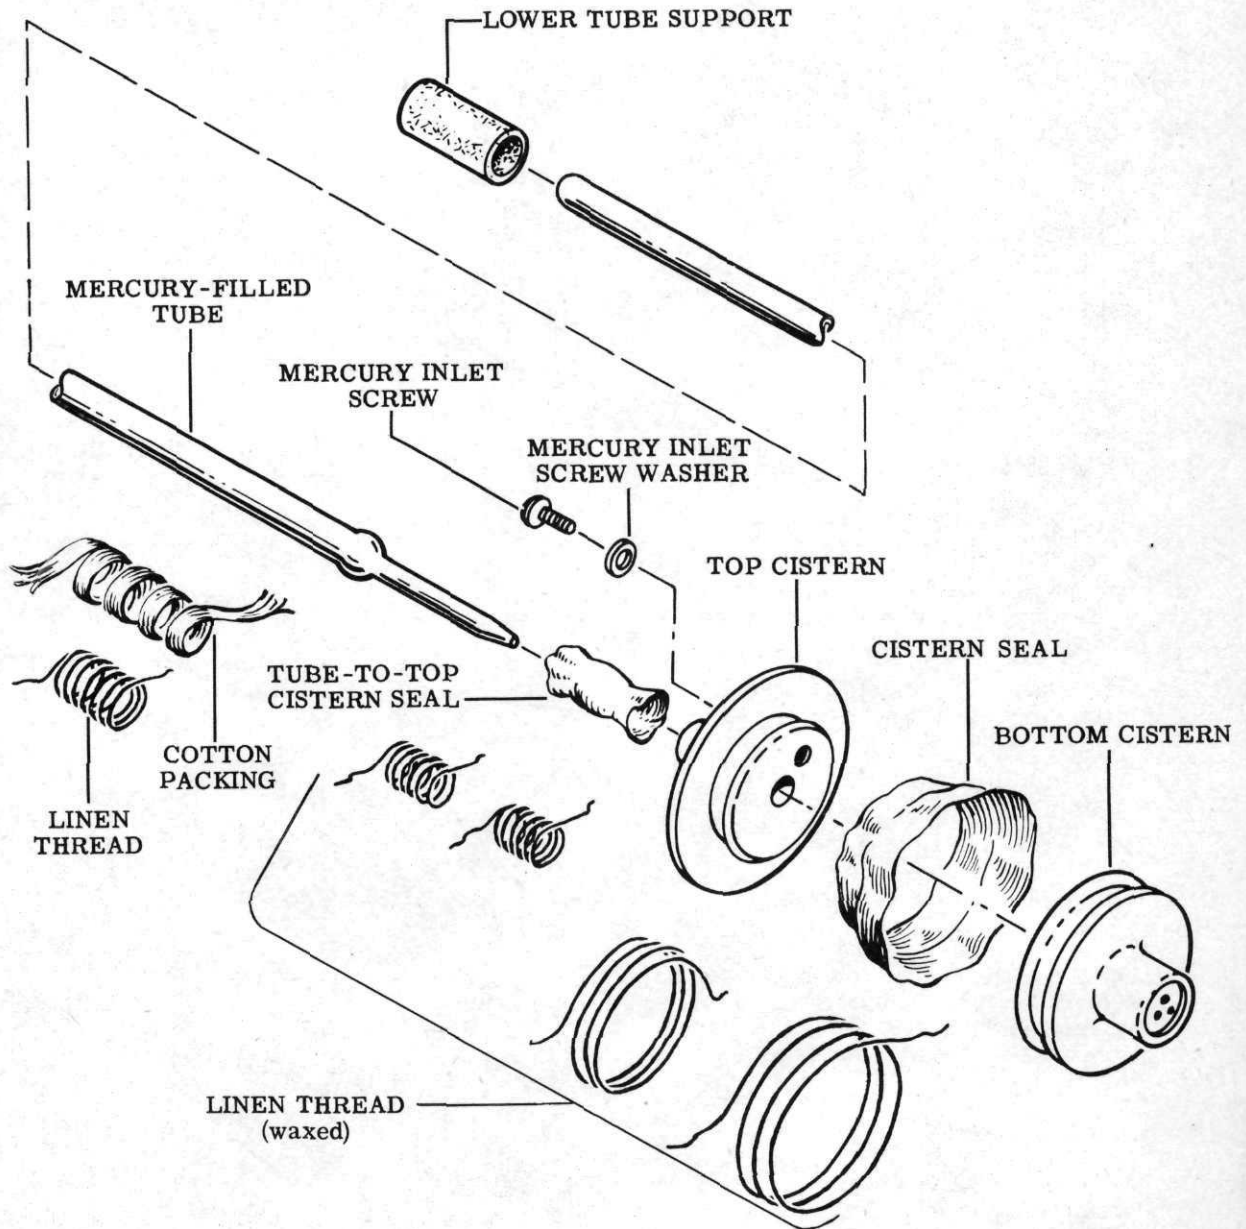
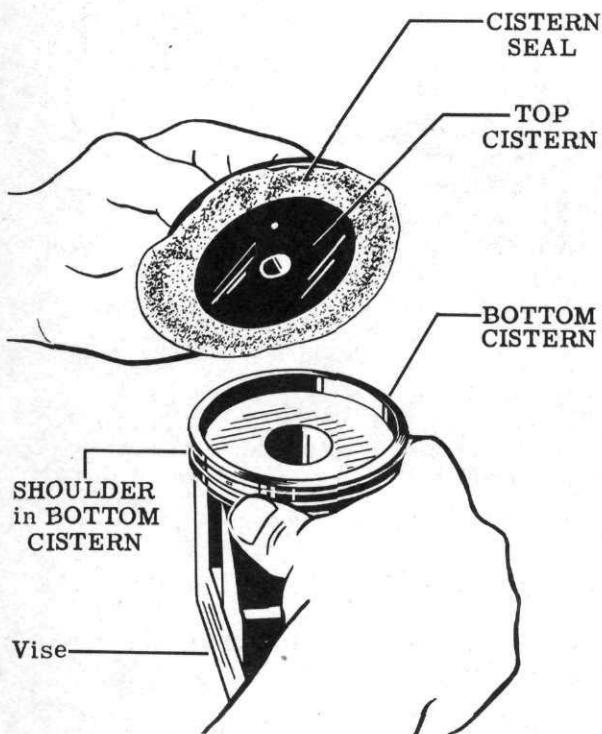
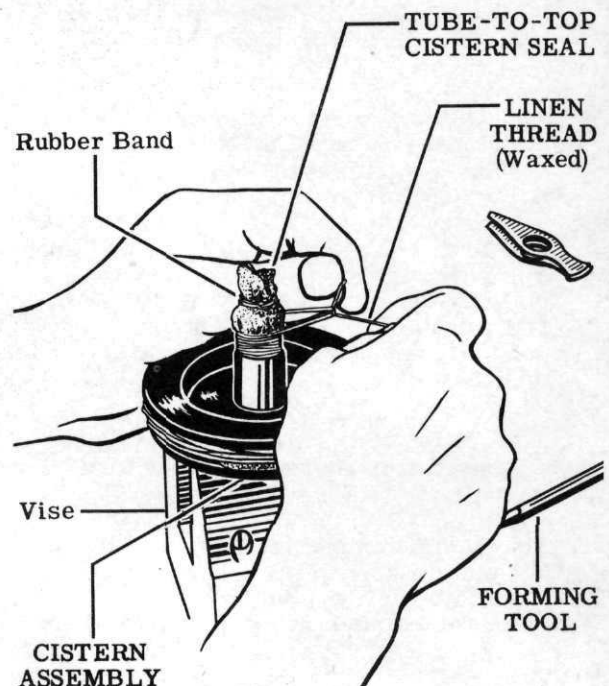

Figure 39
Figure 44
Figure 47
33. Assemble the mercury inlet screw washer onto the mercury inlet screw. Then assemble the screw into the top cistern. See the exploded view, Fig. 39.
36. Inspect the cistern seal for signs of pin holes or other defects by stretching it gently, and holding it in front of a strong light. See the exploded view, Fig. 39.
38. Using the forming tool (Tool No. 12), press the cistern seal down to the flat flange on the top cistern. See Fig. 41 and the exploded view, Fig. 39.
the cistern. See Fig. 44, and the exploded view, Fig. 39.
44. Spread out the cistern seal assembled to the top cistern. Then place the top cistern on the bottom cistern. See Fig. 44.
48. Using a sharp pointed scissors (Tool No. 14), trim off any excess length of cistern seal. Push down the knots to form a smooth surface all around the seal. Use the forming tool, Tool No. 12. See the exploded view, Fig. 39, and refer to the "Special Service Tool List" in Section VIII for details of the special tools used here.
49. Inspect the tube-to-top cistern seal for signs of pin holes or other defects by stretching it gently, and holding it in front of a strong light. Blow off any dirt or dust with an air hose. See the exploded view, Fig. 39.
51. Cut a length of linen thread approximately three feet long. Starting at the center of the thread and holding the thread taut, wind it tightly around the seal. Begin at the bottom of the shoulder on the top cistern neck and work up to the bead. See Fig. 47 and the exploded view, Fig. 39. Cross the first turn of thread and pull it tight. Then tie a single knot in the next turn.
52. When the winding reaches the bead on the top cistern neck, make a single knot next to the last turn and then tie a double box knot. Using scissors, cut off the excess lengths of thread. Flatten the knots to form a smooth surface all around the seal, using the forming tool, Tool No. 12. See Fig. 47.
54. Apply a thin coating of tube wax to the bulb of the mercury tube. Start the coating approximately halfway up the bulb and continue it for about 1/2 inch up towards the top of the mercury tube. The mercury tube can be left in the vertical support rack (Tool No. 5) during this operation. See the exploded view, Fig. 39, and refer to the "Special Service Tool List" in Section VIII for details of the special tool referred to in this operation.
55. Remove the tissue paper from the cistern assembly, and remove the rubber band from the tube-to-top cistern seal. See Fig. 47.
Starting at the center of the thread and holding the thread taut, wind it tightly around the seal. Begin just below the center of the mercury tube bulb. The center of this bulb can be determined by touch. See Fig. 39. Cross the first turn of thread and pull it tight. Then tie a single knot in the next turn.